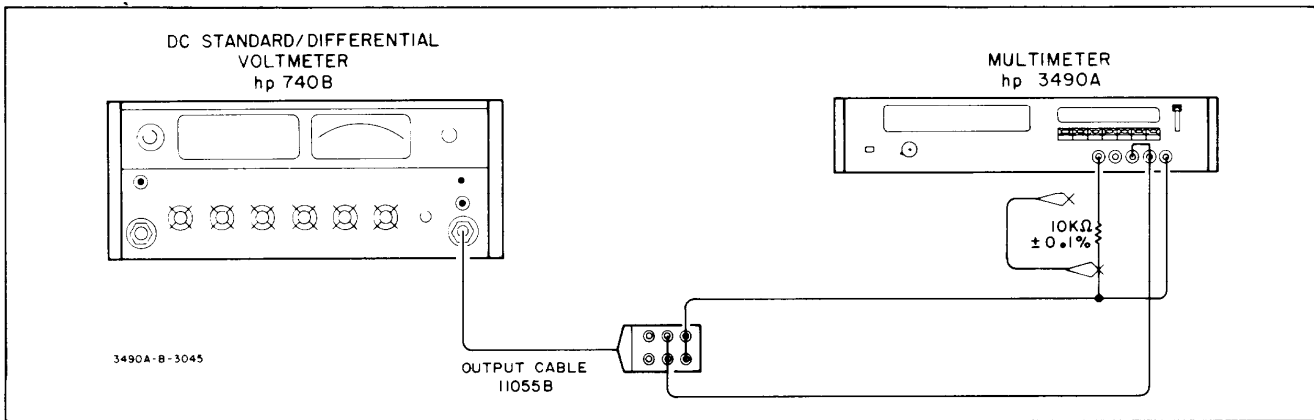

Figure 5-8. External Reference Input Resistance Test.
b. Connect 3490A, dc standard and 10 kΩ resistor as shown in Figure 5-8. Connect jumper across resistor.